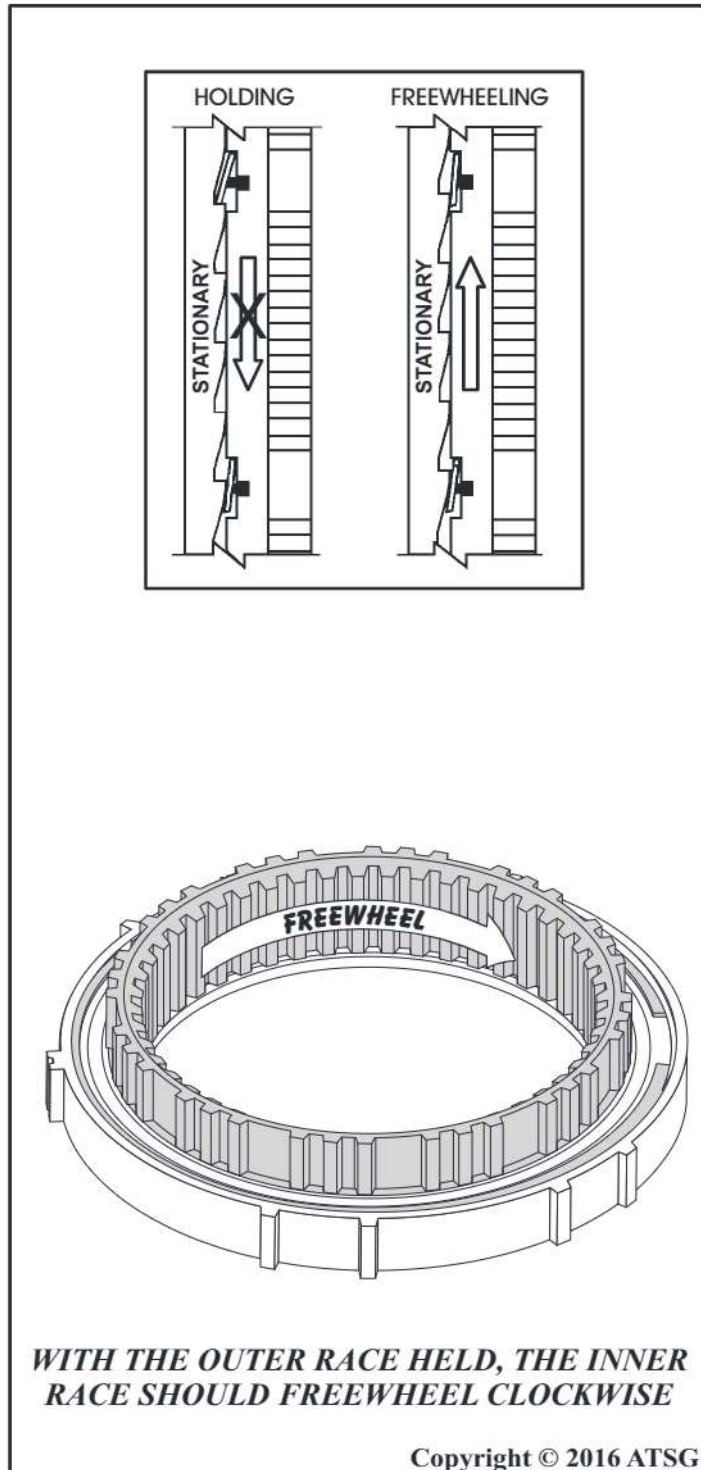

Figure 155
49. Check the operation of the low one-way clutch to be sure it freewheels in the direction shown in Figure 155 and locks in the other direction.